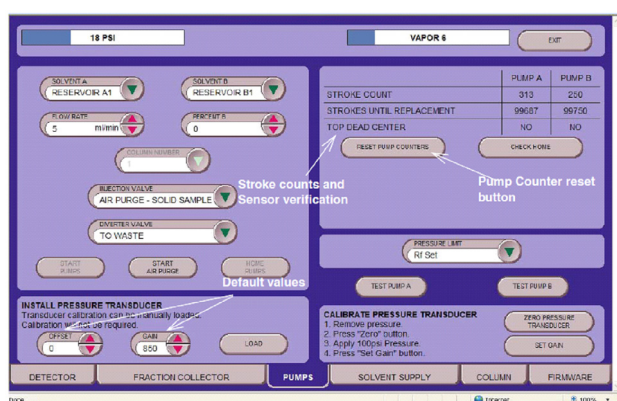

Figure 21: Service menu
8. Click on HELP then SERVICE to enter the service menu to reset the pump stroke count (Figure 21).